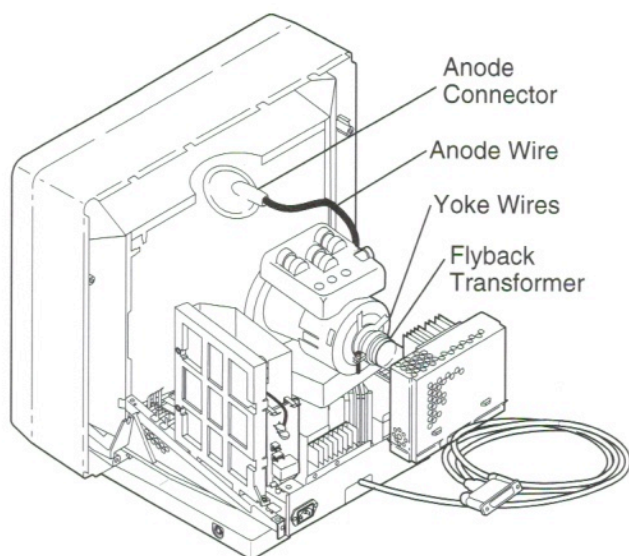

Figure 37. Apple Multiple Scan 20 Adjustments
Indicator Lights (see Figure 37)
1. Press the plus (“+”) button to increase the brightness or contrast (see Figure 37).
2. Press the minus (“-”) button to decrease the brightness or contrast (see Figure 37).
1. Press the select button (marked with “⌘”) to turn on the centering indicator light (see Figure 37).
2. Press the plus (“+”) or minus (“-”) button on the brightness controls to move the center of the picture up or down, or the contrast controls to move the center of the picture right or left (see Figure 37).
2. Press the plus (“+”) or minus (“-”) button on the brightness controls (for vertical size) or contrast controls (for horizontal size) to increase or decrease the size of the picture (see Figure 37).
1. Press the select button (marked with “⌘”) repeatedly until the rotation indicator light goes on (see Figure 37).
1. Press the select button (marked with “⌘”) repeatedly until the convergence indicator light goes on (see Figure 37).
1. Press the select button (marked with “⌘”) repeatedly until the color temperature indicator light (see Figure 37) goes on.
2. Press the plus (“+”) button on the contrast controls to increase the color temperature (see Figure 37).
3. Press the minus (“-”) button on the contrast controls to decrease the color temperature (see Figure 37).
You can reset brightness and contrast to their factory levels. However, you cannot reset one or the other. You must reset both controls. Use a straightened paper clip to push in the Reset button (see Figure 37).
1. Press the select button (marked with “⌘”) repeatedly until the indicator light of the picture control you want to reset (vertical or horizontal center, convergence, or color temperature) goes on (see Figure 37).